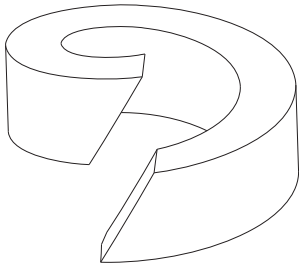

fig. 7: Split packing ring
- When cutting the new packing from the roll, make sure that the ends are cut with a slant (see fig. 7).